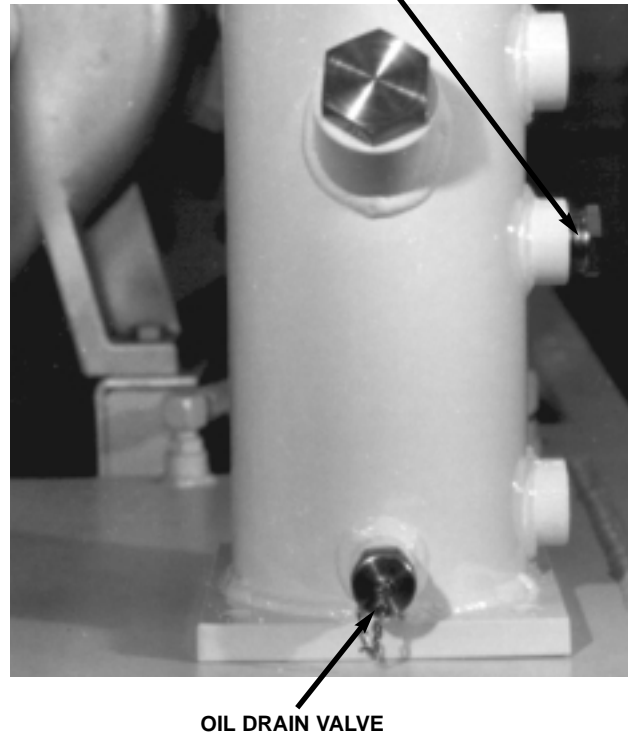

FIGURE 4.11-1 OIL DRAIN VALVE
2. Remove the cap from the oil drain valve (See Figure 4.11-1).